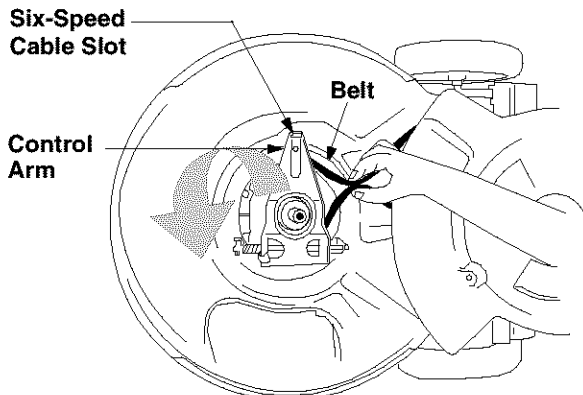

Figure 21
- Squeeze the belt together and push it forward, while pressing the control arm inward towards the deck and remove the six speed cable from the slot. See Figure 21.